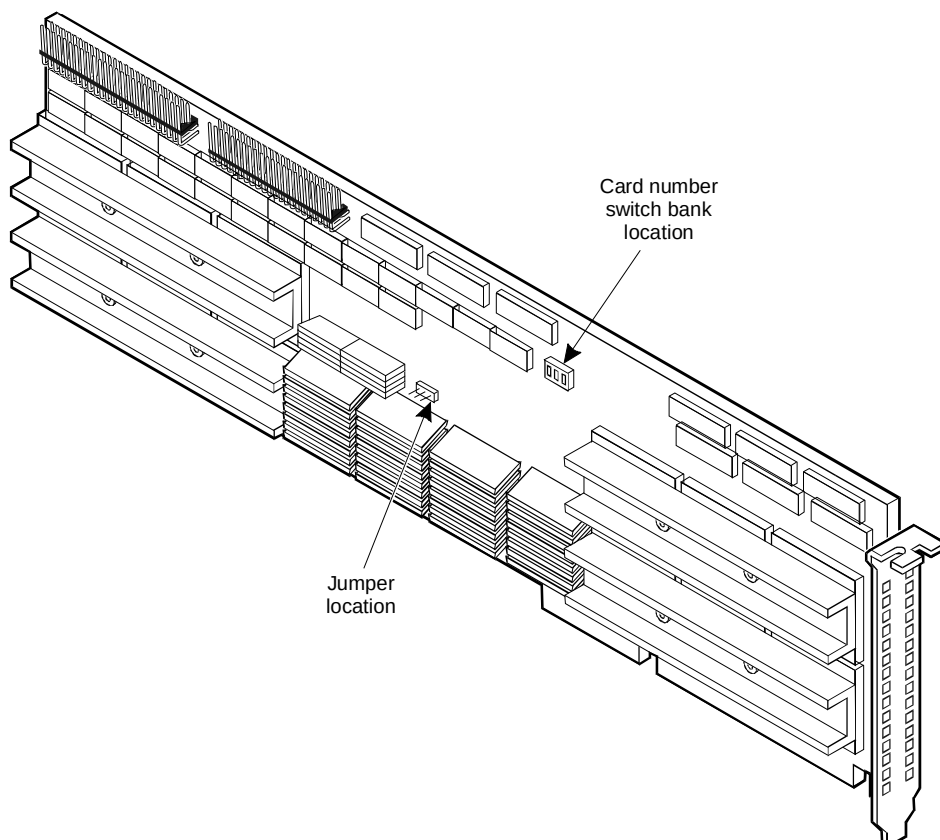

Figure 5-23. Companion Circuit Card
The Companion (CMP) circuit card (AYC7) (Figure 5-23) is an extension of the SP circuit card and is connected by its own special bus. The CMP card gets only power from the backplane. All the signal interfaces come from the SP card. If only one CMP card is attached to an SP, it must be located in the slot next to the SP. There cannot be an empty slot between the SP and the CMP. Up to eight (8) CMP cards are supported.